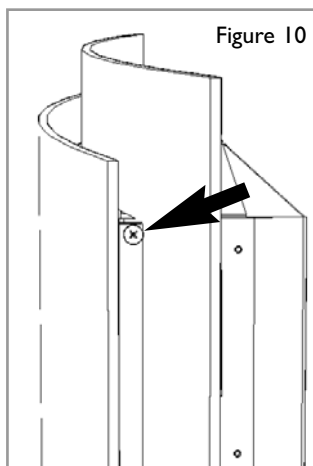

Figure 10
**Corinthia models :** The glass panel is supported by two self-locking M6 screws, one on each side of the fire as shown in figure 10. The glass panel must be held in position while the screws are inserted on each side - it is recommended to seek assistance for this operation. The screws should be screwed in fully and then undone one turn to allow the glass panel to swing open for access to the controls. The appliance features a piston damper hinge assembly. The damper assembly should be fitted onto the rear of the glass facia, on the lower right hand side as follows: